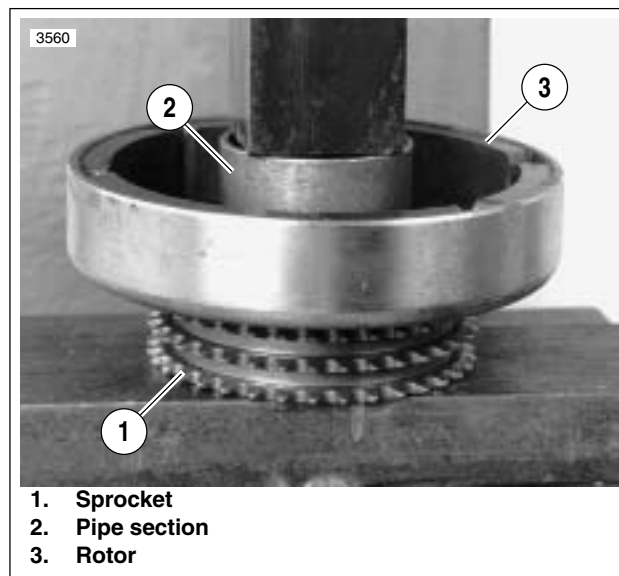

Figure 7-35. Pressing Rotor onto Sprocket
5. See Figure 7-35. Attach rotor to sprocket.
- a. Position rotor (3) on sprocket (1). Align holes in sprocket with holes in rotor.
- c. Position a section of pipe (2) with an inside diameter larger than the sprocket mounting hub over center of rotor. Press rotor onto sprocket. Tighten fasteners to 90-110 **in-lbs** (10-12 Nm).